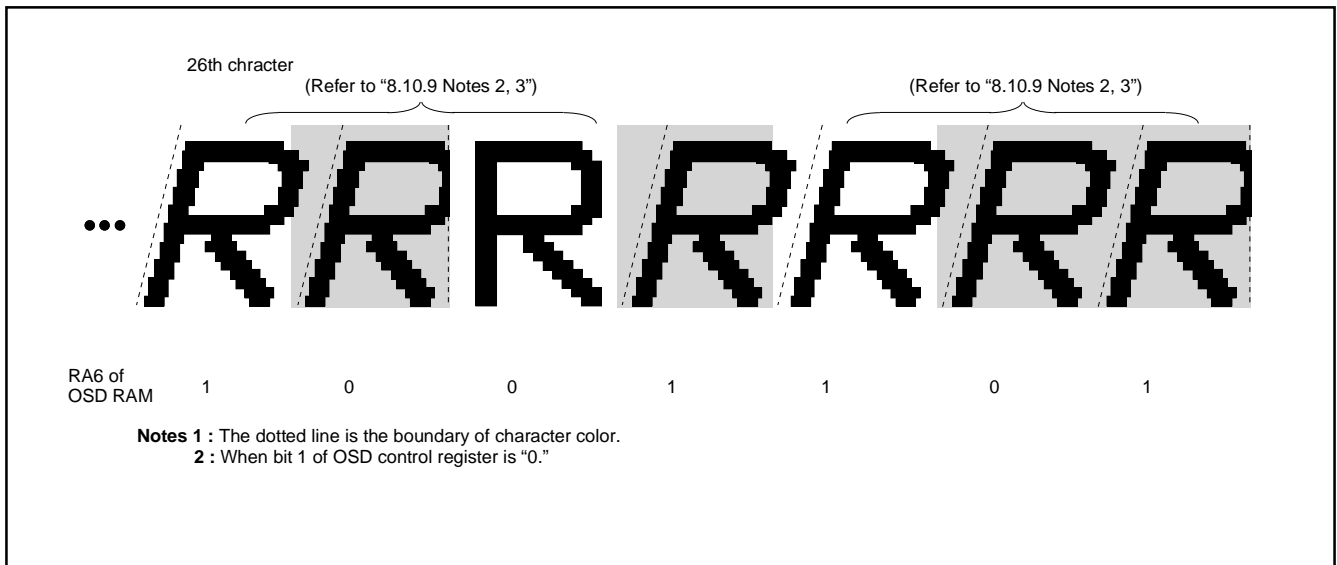

Fig. 8.10.20 Example of Italic Display
- 2: The boundary of character color is displayed in italic. However, the boundary of character background color is not affected by the italic (refer to Figure 8.10.20).
- 3: The adjacent character (one side or both sides) to an italic character is displayed in italic even when the character is not specified to be displayed in italic (refer to Figure 8.10.20).